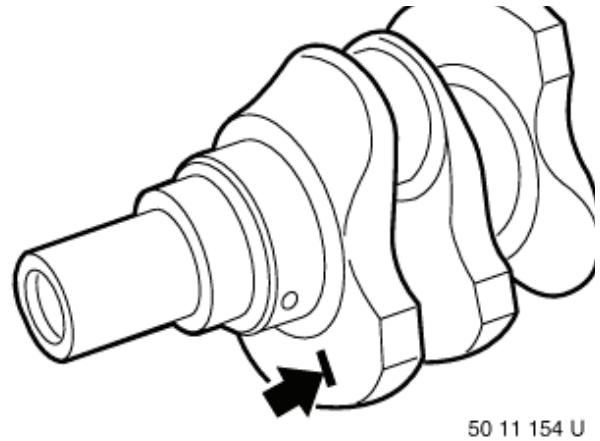

Figure 5-115
- (a) Locate and record the grinding size of crankshaft (**Figure 5-115**).